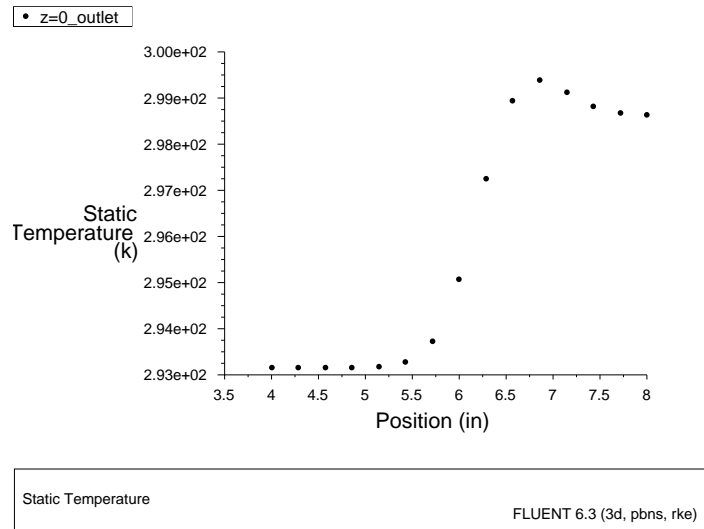

Figure 1.14: Outlet Temperature Profile for the Second-Order Solution
6. Display and save an XY plot of the temperature profile across the centerline of the outlet for the second-order solution (Figure 1.14).